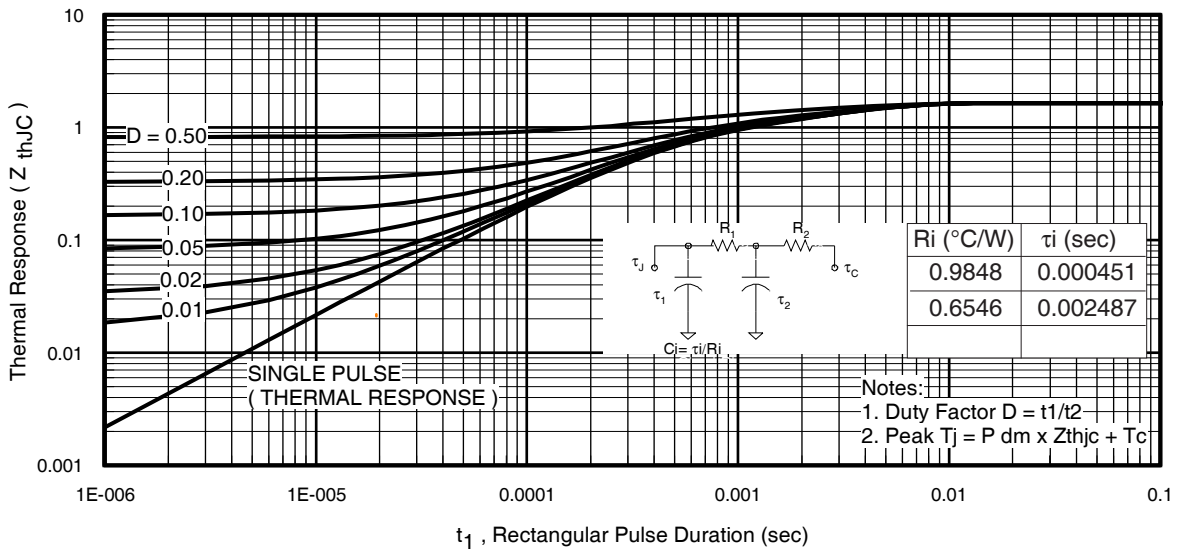

Fig 11. Maximum Effective Transient Thermal Impedance, Junction-to-Case
- ① Repetitive rating; pulse width limited by max. junction temperature. (See fig. 11).
- ② Limited by T_{Jmax} , starting $T_J = 25^\circ\text{C}$, $L = 0.11mH$, $R_G = 25\Omega$, $I_{AS} = 37A$, $V_{GS} = 10V$. Part not recommended for use above this value.
- ③ $I_{SD} \leq 37A$, $di/dt \leq 920A/\mu s$, $V_{DD} \leq V_{(BR)DSS}$, $T_J \leq 175^\circ\text{C}$.
- ④ Pulse width $\leq 1.0ms$; duty cycle $\leq 2\%$.
- ⑤ $C_{oss \text{ eff.}}$ is a fixed capacitance that gives the same charging time as C_{oss} while V_{DS} is rising from 0 to 80% V_{DSS} .
$Z_{thJC}(D, t_{av})$ = Transient thermal resistance, see figure 11)